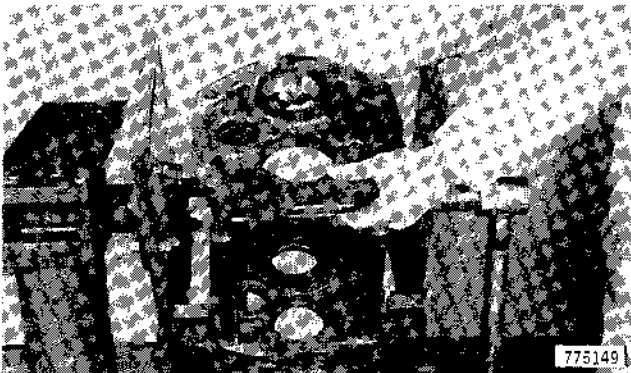

Figure 156
1. Install separator plate over tie bolts as shown in Figure 156.